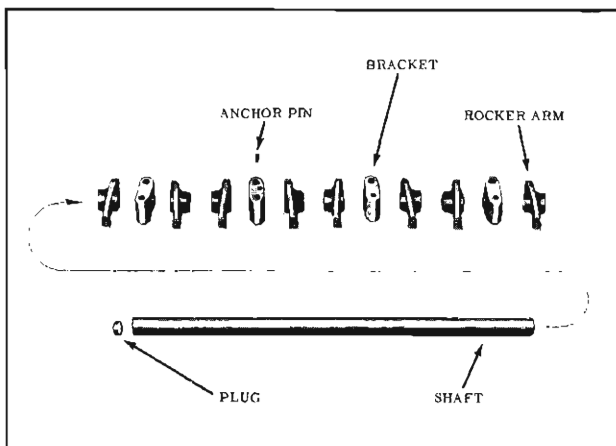

Fig. 3-5 Rocker Arm Assembly
5. To disassemble rocker arm, remove brackets and rocker arms from shaft. (Fig. 3-5)
3. Lubricate all frictional surfaces of the rocker arms, brackets and shaft, then assemble rocker arm shaft assembly as shown in Fig. 3-5.